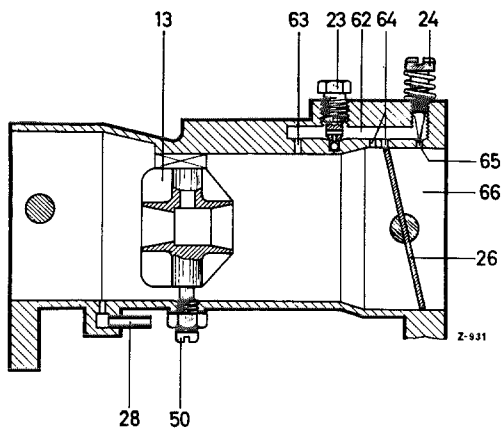

Fig. 07-0/42
The idle air supply for the idle system of stage 2 of both die-cast and sand-cast carburetors is drawn in from the mixing chamber in the suction canal through the idle air bore (63) (Figs. 07-0/42 and 07-0/43).